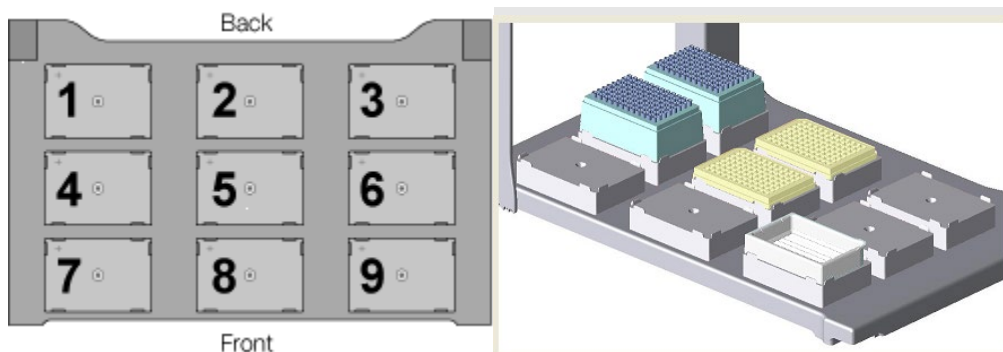

Figure 1 – Agilent Bravo Liquid Handler Deck Positions
1.	<p>Ensure the following items are provisioned to the robot (see Figure 1):</p> <ul style="list-style-type: none">• Position 1: A box of Agilent disposable tips. A full box or a half-consumed box of tips may be used.• Position 2: The amplification plate, unsealed and in a plate holder.• Position 4: A tip box for used tips. This box must be empty or half empty. An empty box may only be used for 2 plates.• Position 5: A new 96-well plate with a CE daughter plate barcode on the side.• Position 9: A reagent trough with wells containing sufficient volume of LIZ Formamide.
2.	Complete the CE daughter plate prep on the Bravo. Ensure the following items are provisioned to the robot (see Figure 1): <ul style="list-style-type: none">• Position 1: A box of Agilent disposable tips. At least one set of 96 tips must be present in the box.• Position 2: The amplification plate, unsealed and in a plate holder.• Position 4: A tip box for used tips. This box must have at least one empty quadrant.• Position 5: The CE daughter plate with WEN Formamide and/or Formamide and a CE daughter plate barcode on the side, also in a plate holder.